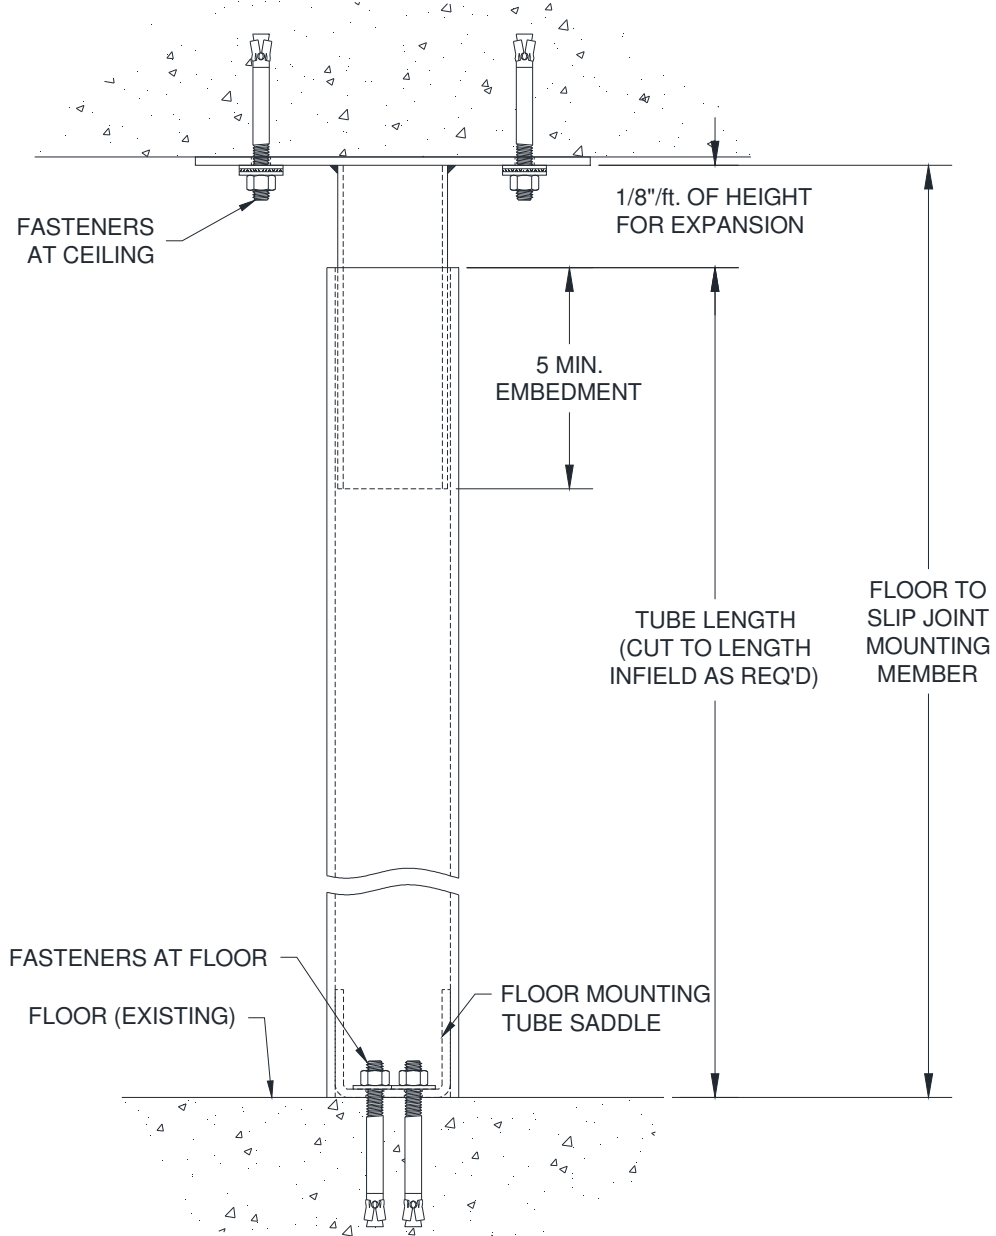

Figure 5.14 – Slip Joint - Between Floor and Ceiling Mounting Assembly
10. Guides mounting to tubes, sometimes require the use of a slip joint. There are (3) mounting styles for slip joints, as detailed in **Figures 5.14, 5.15 and 5.16**. Refer to the job information to determine the correct mounting style for the unit. Locate the Slip Joint Mounting Member(s).
11. Use the job information and the marks made in the previous steps to determine the correct Slip Joint Mounting Member location. Install using the provided hardware. Use only enough fasteners to hold the Mounting Members securely in place (2), as they will be removed in a later step.
12. Determine the required tube length. Refer to **Figure 5.14, 5.15 and 5.16**, depending on which configuration you are installing.